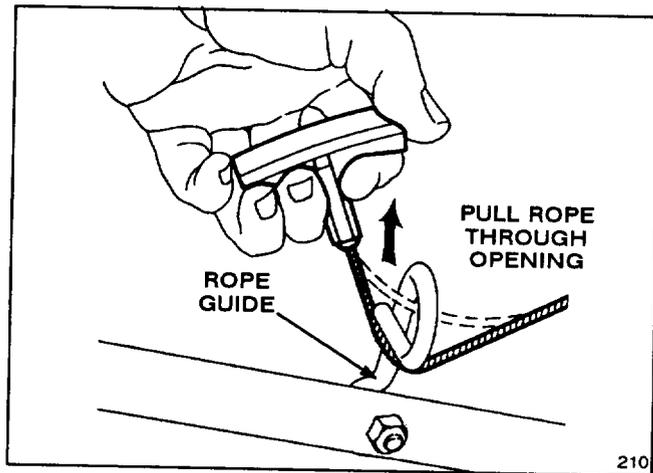
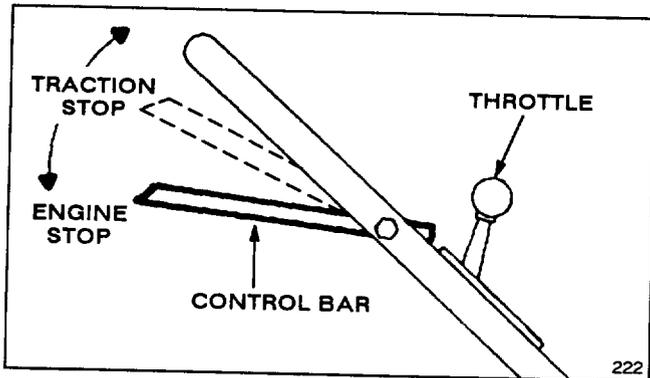
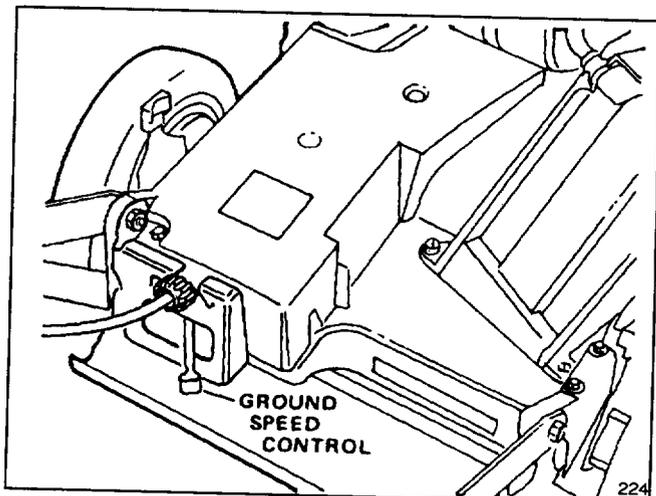

Figure 4
Figure 11
Figure 12
1. Pull starter rope through opening in rope guide (Fig. 4). By squeezing control bar (Fig. 11) against handle, blade brake will release and allow rope to be pulled easily up through rope guide.
1. CONTROLS—Throttle control, control bar, and fingertip starter are on upper handle (Fig. 11). Ground speed control is located at rear of belt cover (Fig. 12).